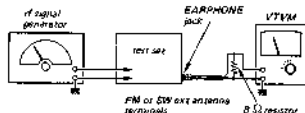

Fig. 3-7. FM/SW1 ~ 5 frequency coverage and tracking adjustment setup
- Setup: FM See Fig. 3-7
- SW1 - 5 See Fig. 3-7.